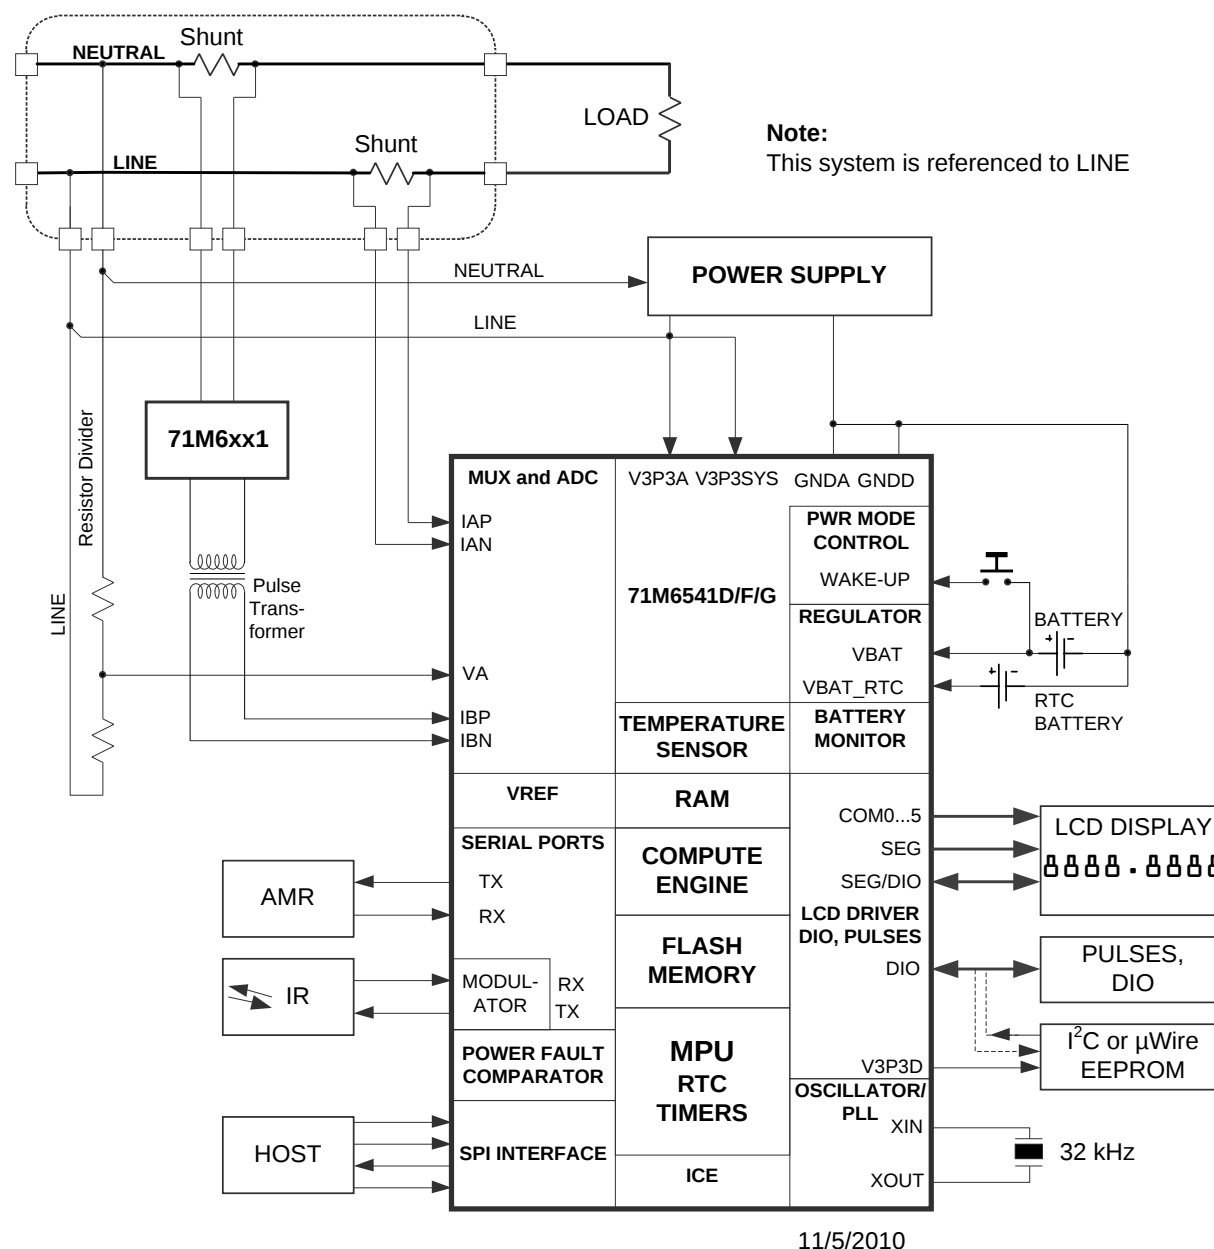
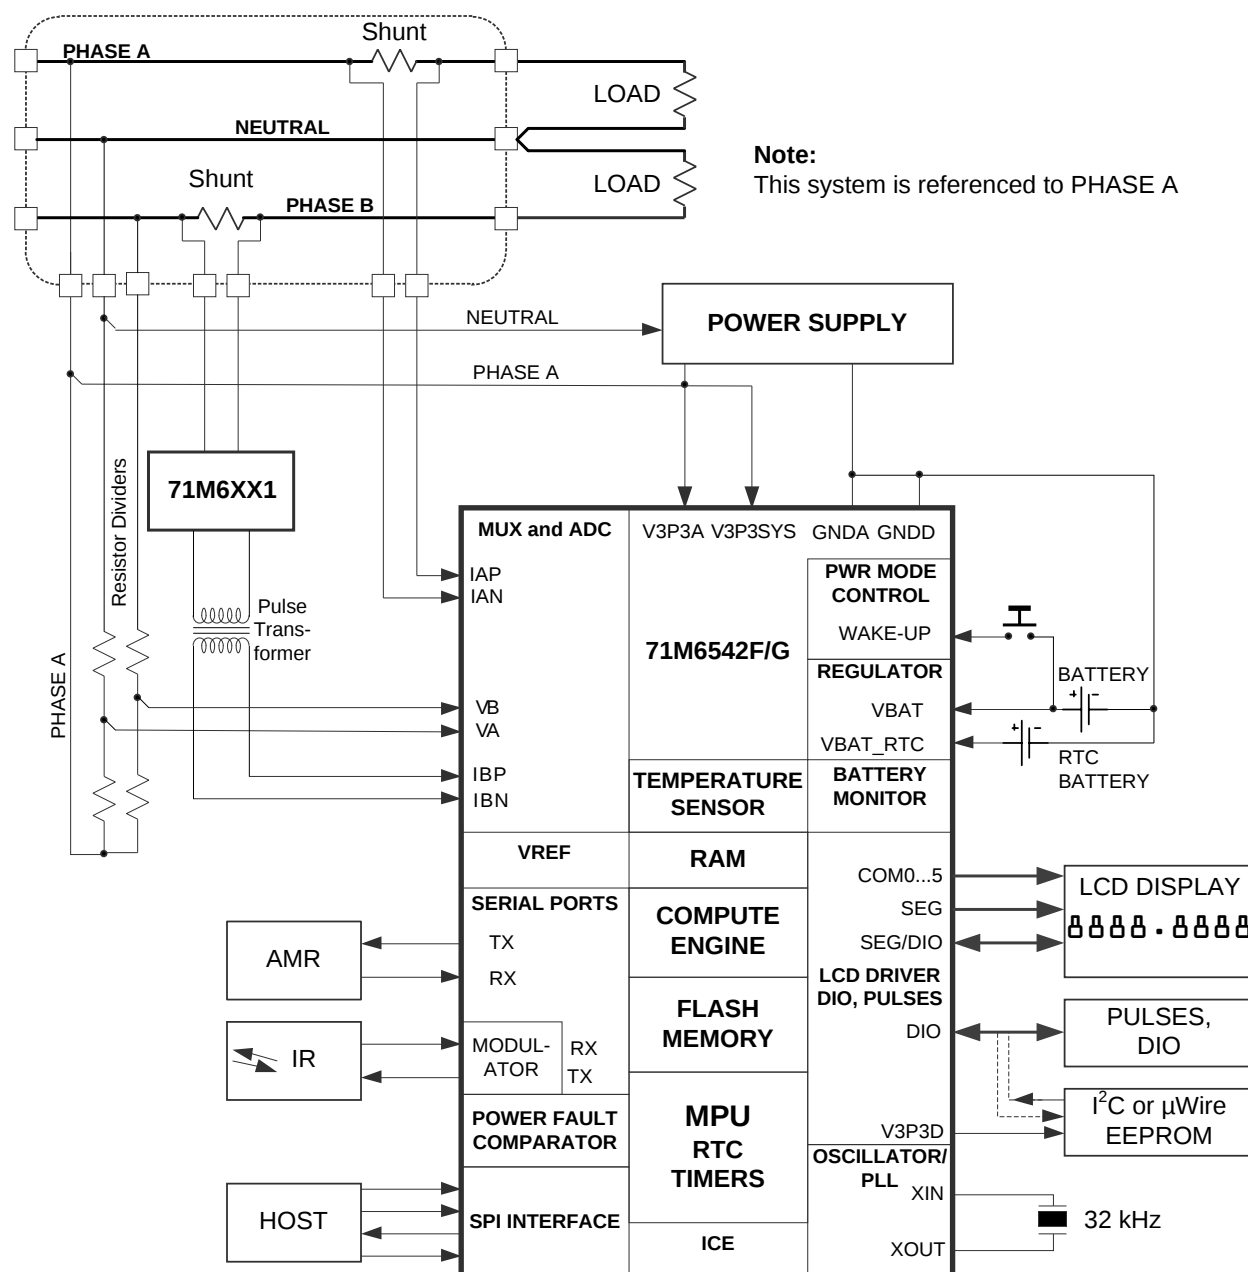

Figure 36: 71M6541D/F/G with 71M6x01 isolated Sensor
Figure 38: 71M6542F/G with 71M6x01 Isolated Sensor
Figure 36 shows a typical connection for one isolated and one non-isolated shunt sensor, using the 71M6x01 Isolated Sensor Interface. This configuration implements a single-phase measurement with tamper-detection using the second current sensor. This configuration can also be used to create a split phase meter (e.g., ANSI Form 2S). For best performance, the IAP-IAN current sensor input is configured for differential mode (i.e., *DIFFA_E* = 1, *I/O RAM 0x210C[4]*). The outputs of the 71M6x01 Isolated Sensor Interface are routed through a pulse transformer, which is connected to the pins IBP-IBN. The IBP-IBN pins must be configured for remote sensor communication (i.e., *RMT_E* = 1, *I/O RAM 0x2709[3]*). See **Figure 3** for the AFE configuration corresponding to **Figure 36**.
Figure 38 shows a 71M6542F/G configuration using locally connected current sensors. The IAP-IAN current channel may be directly connected to either a shunt resistor or a CT, while the IBP-IBN channel is connected to a CT and is therefore isolated. This configuration implements a dual-phase measurement utilizing Equation 2. For best performance, both the IAP-IAN and IBP-IBN current sensor inputs are configured for differential mode (i.e., $DIFFA_E = 1$ and $DIFFB_E = 1$, I/O RAM 0x210C[4] and 0x210C[5]). The IBP-IBN input must be configured as an analog differential input disabling the remote sensor interface (i.e., $RMT_E = 0$, I/O RAM 0x2709[3]). See Figure 4 for the AFE configuration corresponding to Figure 38.
Figure 38 shows a typical two-phase connection for the 71M6542F/G using one isolated and one non-isolated sensor. For best performance, the IAP-IAN current sensor input is configured for differential mode (i.e., *DIFFA_E* = 1, *I/O RAM 0x210C[4]*). The 71M6x01 Isolated Sensor Interface is used to isolate phase B. The outputs of the 71M6x01 Isolated Sensor Interface are routed through a pulse transformer, which is connected to the pins IBP-IBN. The IBP-IBN pins must be configured for remote sensor communication (i.e., *RMT_E* = 1, *I/O RAM 0x2709[3]*). See Figure 5 for the AFE configuration corresponding to Figure 38.
This section discusses metrology temperature compensation for the meter designs where current shunt sensors are used in conjunction with the 71M6x01 isolated sensors, as shown in Figure 36 and Figure 38.
Referring to Figure 36 and Figure 38, the VA voltage sensor is available in the 71M6541D/F/G and 71M6542F/G and is directly connected to the 71M654x. The VB voltage sensor is available only in the 71M6542F/G and is also directly connected to it. Thus, the precision of these directly connected voltage sensors is affected by VREF in the 71M654x. The 71M654x also has one shunt current sensor (IA) which is connected directly to it, and therefore is also affected by the VREF in the 71M654x. The external current sensor and its corresponding signal conditioning circuit also has a temperature dependency, which also may require compensation, depending on the required accuracy class. Finally, the second current sensor (IB) is isolated by the 71M6x01 and depends on the VREF of the 71M6x01, plus the variation of the corresponding shunt resistance with temperature.